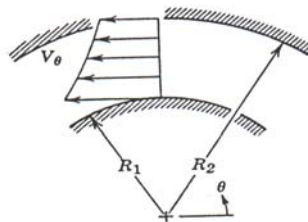

Fig. 6
6. As shown in Fig. 6, the radial variation of velocity at midsection of the 180° bend is given by $rV_\theta = \text{constant}$. The cross section of the bend is square and is on the same horizontal plane. Assume that the velocity is not function of z . Derive an equation for the pressure difference between the outside and the inside of the bend. Express your answer in terms of the mass flow rate $\dot{m}$, the fluid density ρ , the geometric parameters, R_1 and R_2 , and the depth of the bend, h .